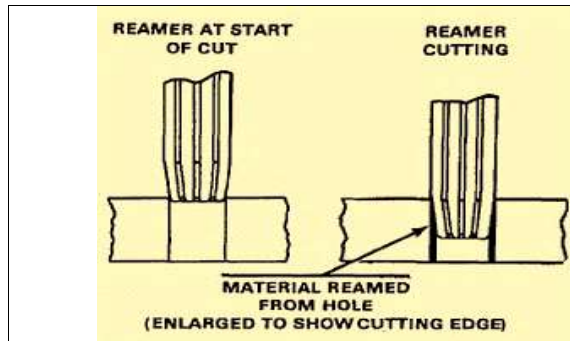

Figure 4-42. Reaming operations.
**Reaming:** Is another operation that can be performed on a drilling machine. It is difficult, if not impossible, to drill a hole to an exact standard diameter. When great accuracy is required, the holes are first drilled slightly undersized and then reamed to size (Figure 4-42). Reaming can be done on a drilling machine by using a hand reamer or using a machine reamer.